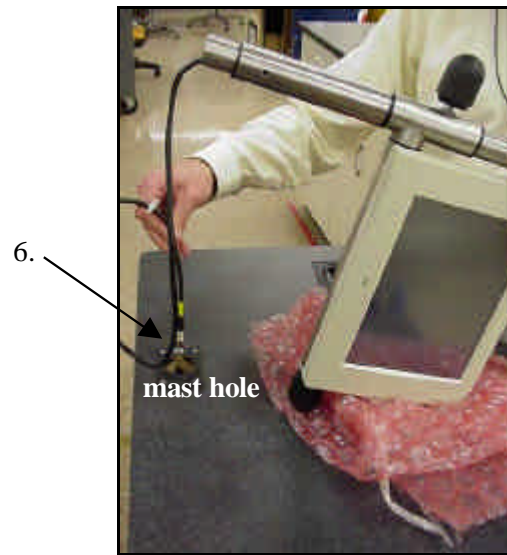

Figure 7: Inserting black scanner cable into mast hole
6. Insert the black scanner cable into the mast hole (**Figure 7**).